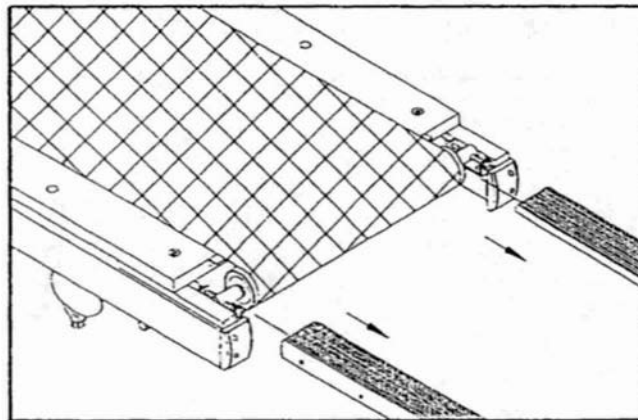

Fig.2
- 2.Slide the staging platform off from the end of the treadmill.(see Fig.2)